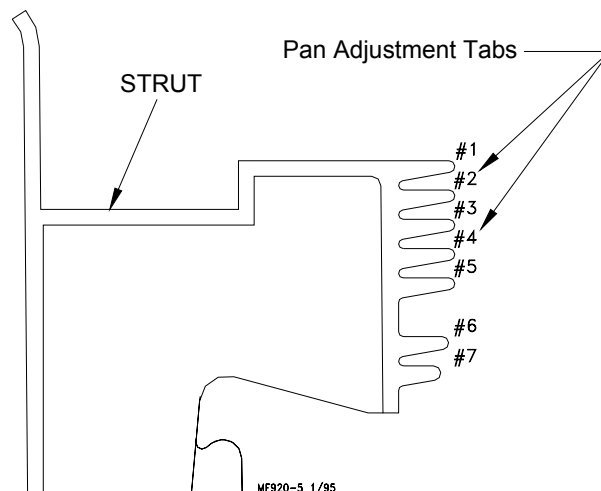

Figure 29. Adjustment Settings
1. Broilers: Position the lip of the feeder pan in the #2 tab of two struts, see **figure 29**.
Turkeys: Position the lip of the feeder pan in the #4 tab of two struts, see **figure 29**.